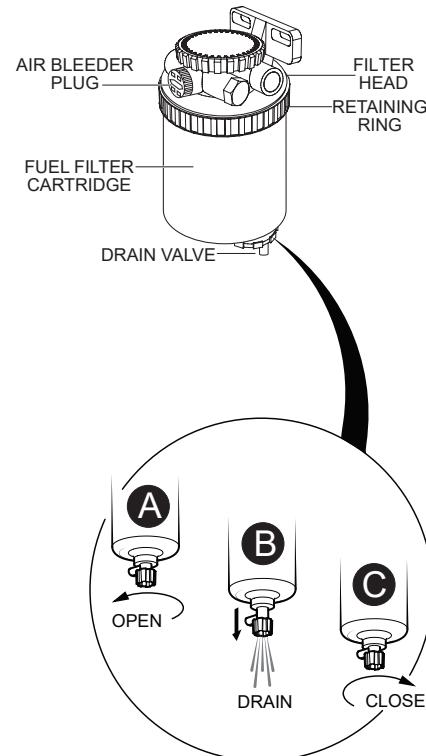

Figure 62. Draining The Fuel Filter
1. Loosen the **air bleeder plug** (Figure 62) on the fuel filter head.